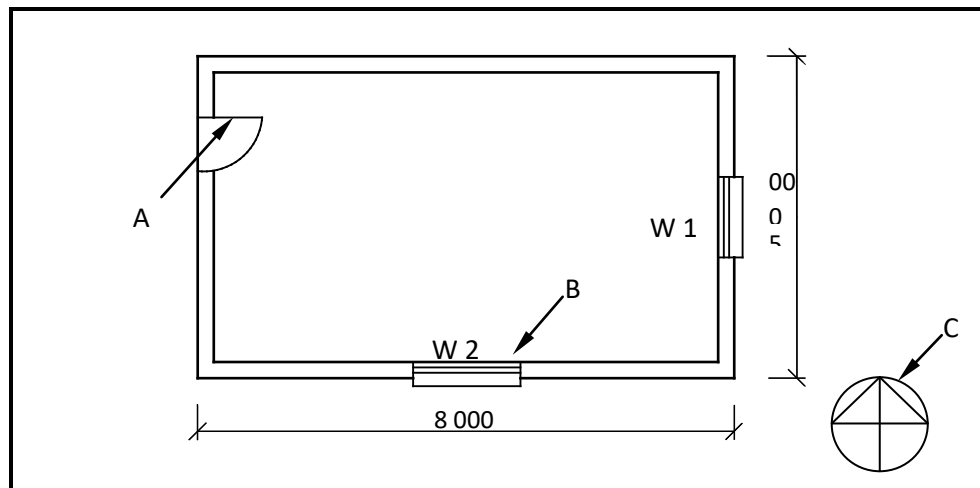

FIGURE 1.3
- 1.3 **FIGURE 1.3** below shows the floor plan of a building. Study the drawing and answer the questions that follow.